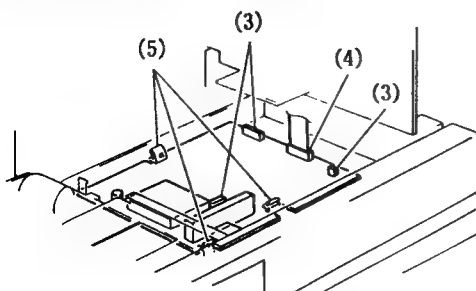

Fig. 4-13 Y/C Separate Circuit Board
9. Y/C Separate Circuit Board (Fig. 4-13)